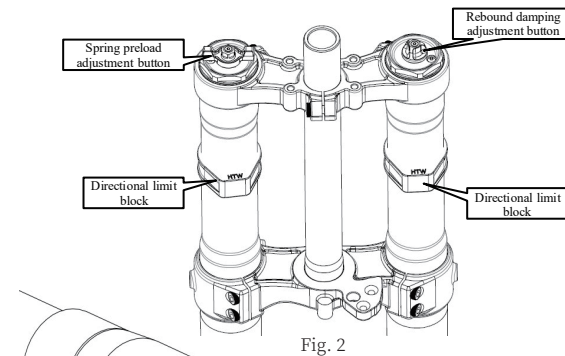

Fig. 2
- A. As shown in Fig. 2, manually turn the red rebound adjustment button at the top of the right fork to adjust the rebound damping.
- A. As shown in Fig. 2, the damping support can be adjusted by manually turning the spring preload adjustment button at the top of the left fork.